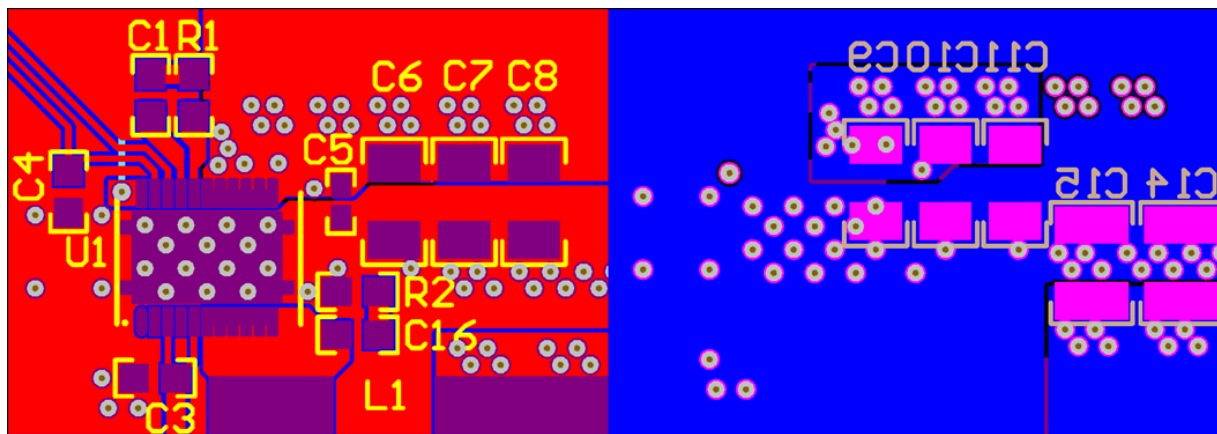

Figure 17. Recommended PCB Layout (Top Down View)
- The placement of the input capacitors relative to V_{IN} and P_{GND} pins of CSD95372AQ5M device should have the highest priority during the component placement routine. It is critical to minimize these node lengths. As such, ceramic input capacitors need to be placed as close as possible to the V_{IN} and P_{GND} pins (see Figure 17). The example in Figure 17 uses 1 x 3.3 nF 0402 50 V and 6 x 10 μF 1206 25 V ceramic capacitors (TDK part number C3216X7R1C106KT or equivalent). Notice there are ceramic capacitors on both sides of the board with an appropriate amount of vias interconnecting both layers. In terms of priority of placement next to the Power Stage C5, C8 and C6, C19 should follow in order.
(1) Keong W. Kam, David Pommerenke, "EMI Analysis Methods for Synchronous Buck Converter EMI Root Cause Analysis", University of Missouri – Rolla
- Use the smallest drill size allowed in your design. The example in Figure 17 uses vias with a 10 mil drill hole and a 26 mil capture pad.